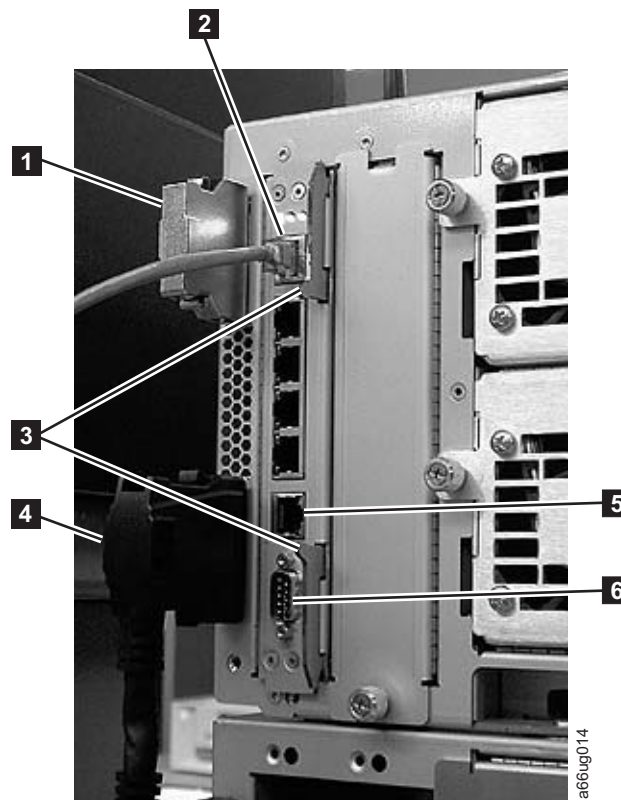

Figure 12-21. Library Control Blade (LCB)
2. Grasp the pair of latches near the top and bottom of the LCB (**3** in Figure 12-21) by pushing them in until they click into place.
3. Reconnect the Ethernet cable (**2** in Figure 12-21 on page 12-25) by pinching the tab and pushing the connector into the LCB.
Note: Six slots reside below the Ethernet cable. The four topmost slots are reserved for future use. The two bottommost slots are designated as Ethernet (**5** in Figure 12-21 on page 12-25) and serial (**6** in Figure 12-21 on page 12-25) ports, and are reserved for use by IBM Service Personnel.